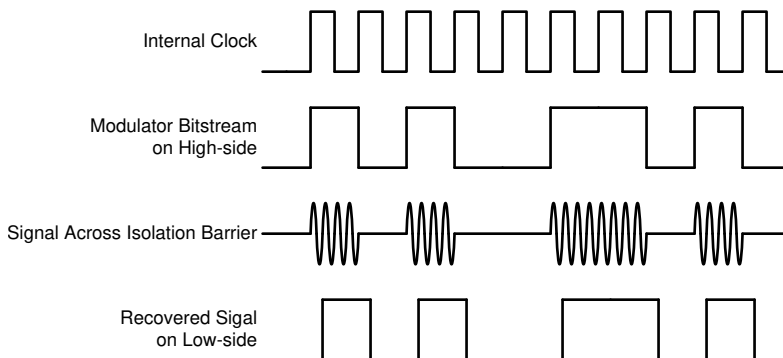

图 7-1. OOK-Based Modulation Scheme
The AMC3302 uses an on-off keying (OOK) modulation scheme, as shown in 图 7-1, to transmit the modulator output bitstream across the capacitive SiO₂-based isolation barrier. The transmit driver (TX) shown in the Functional Block Diagram transmits an internally generated, high-frequency carrier across the isolation barrier to represent a digital *one* and does not send a signal to represent a digital *zero*. The nominal frequency of the carrier used inside the AMC3302 is 480 MHz.